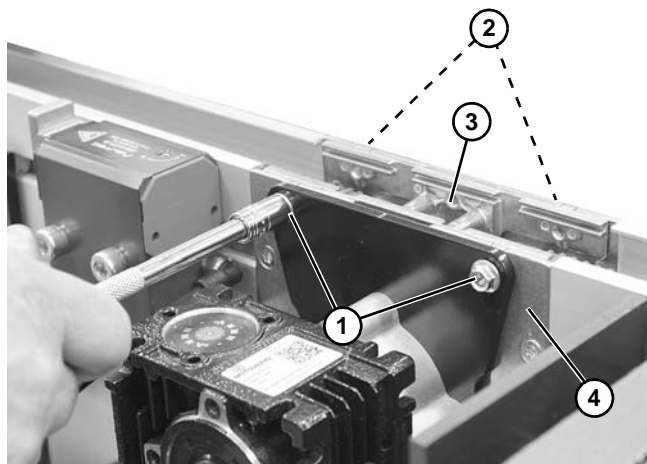

Figure 38
- Drive Side:** Remove hex flange screws (**Figure 38, item 1**). Press in on hex flange screws (**Figure 38, item 2**) and lift mid drive cartridge (**Figure 38, item 3**) from mid drive assembly (**Figure 38, item 4**).